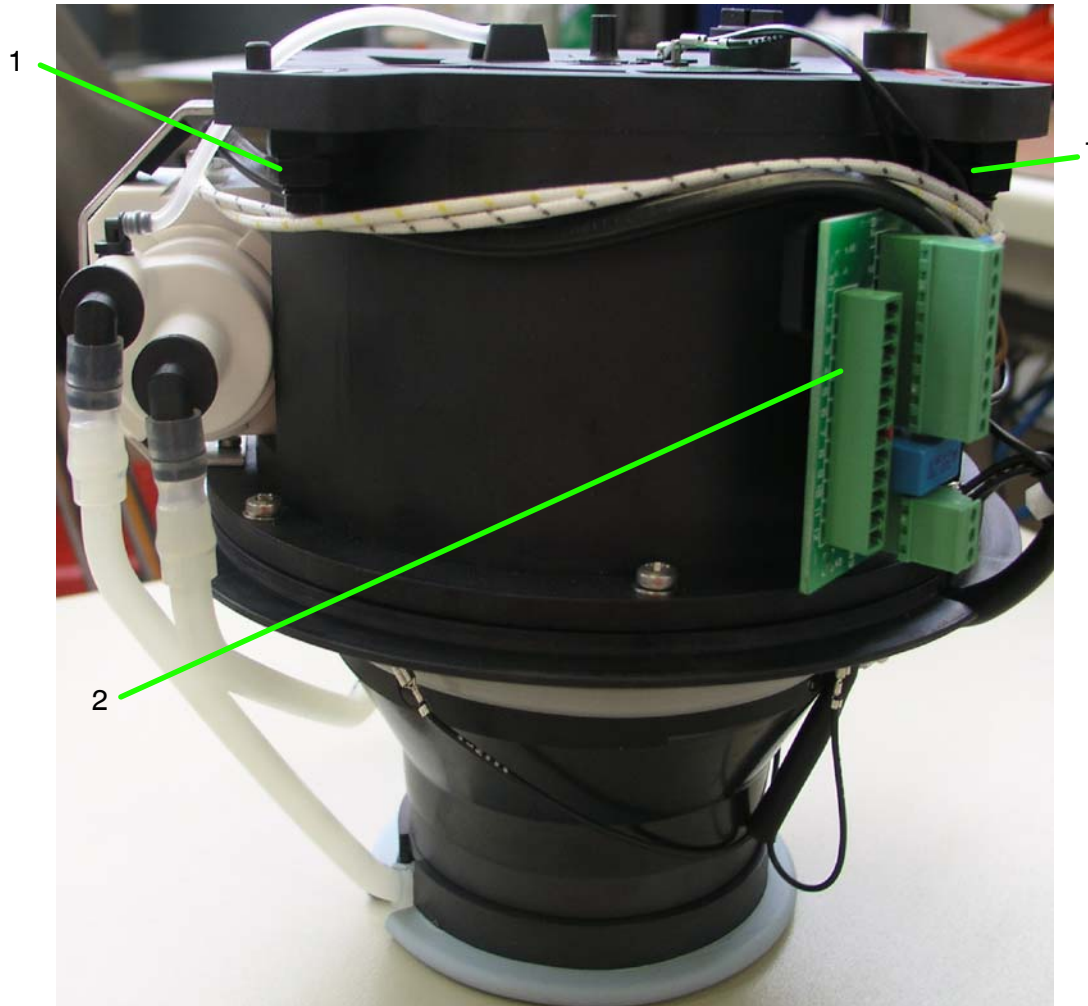

Figure 66: Dismantling the outer sphere
- Remove the plug from the outer sphere (see Figure 66/2).
- Place both hands (see Figure 66/1 ) under 2 of the 4 snap closures and release them by pressing with the thumbs.
- Guide the cable with the plug to the left around the outer sphere and plug it in as shown in (Figure 66/2).